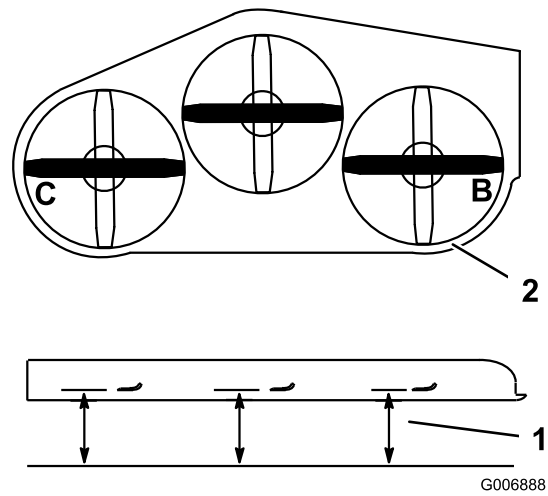

Figure 61
1. Position the **right** blade side-to-side (Figure 61).
2. Measure the right blade at the **B** location, from a level surface to the cutting edge of the blade tip (Figure 61).
4. Position the left blade side-to-side (Figure 61).
5. Measure the left blade at the **C** location (Figure 61), from a level surface to the cutting edge of the blade tip.